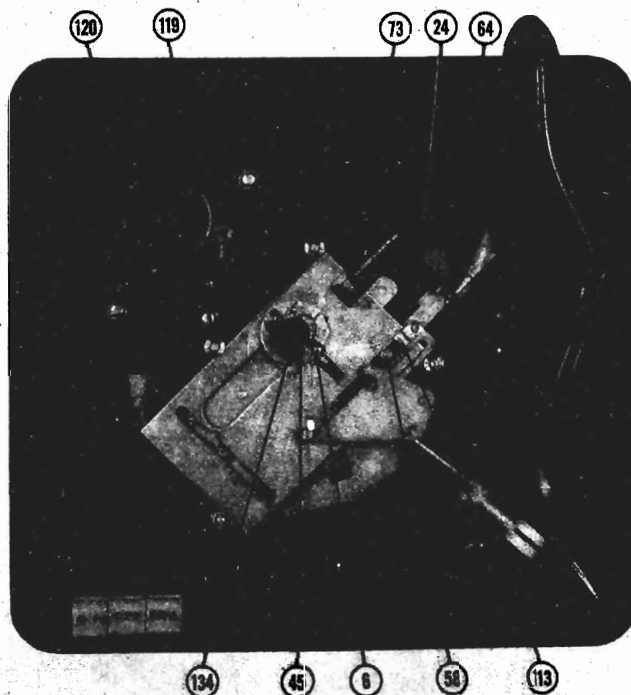

FIGURE 1
1—Normal position of large gear, while in playing cycle should be with roller (60) centered in slot at end of slide plate (21). In this position the gear will snap into the index position. (As shown in Figure 1), and clutch will be disengaged.